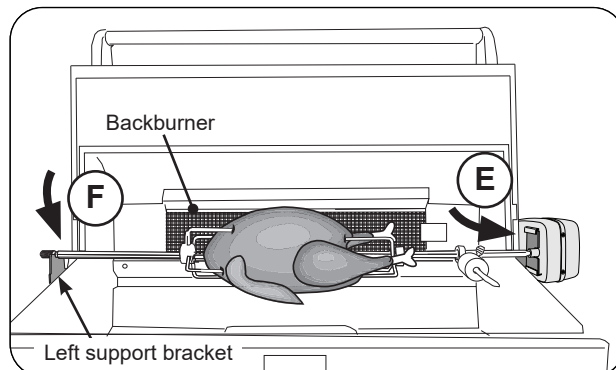

Fig. 36-4 Attach Rotisserie rod to motor
10. Insert the pointed-end of the rod into the motor drive socket (see Fig. 36-4, E). Then rest rod groove (next to the knob) into the left support bracket (see Fig. 36-4, F).